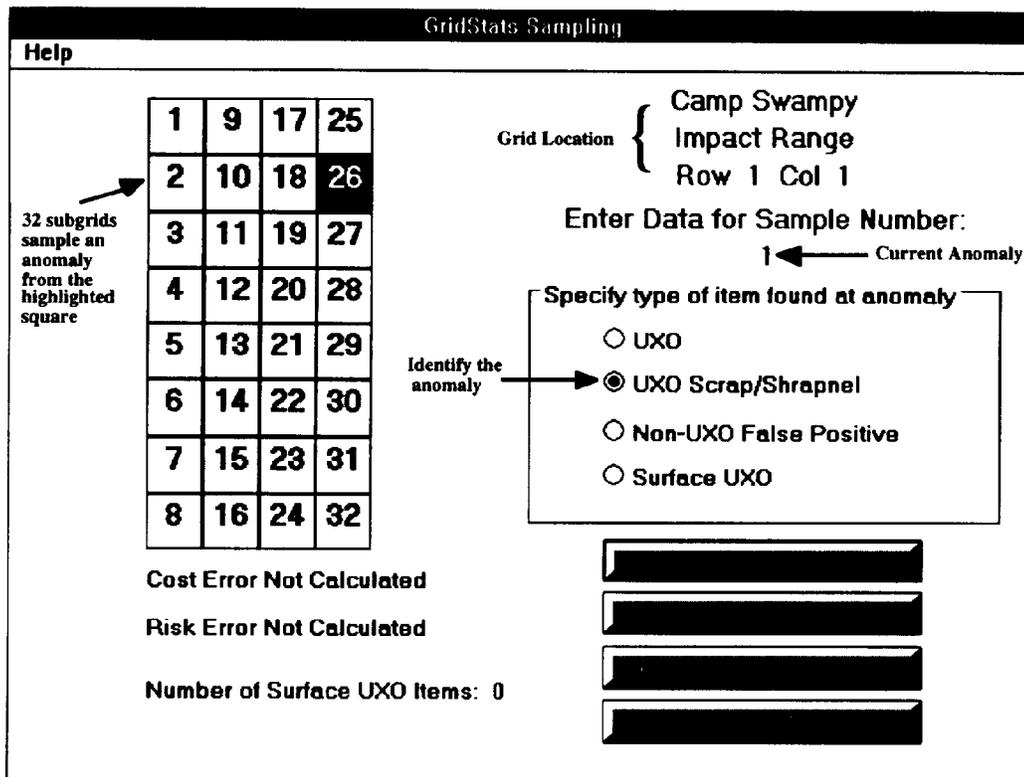

Figure 7.6-1. GridStats Sampling Display
- \* Click the anomaly type (refer to GridStats Sampling Display, Figure 7.6-1).